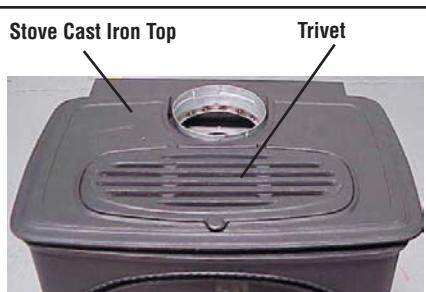

Figure 35
A. Place the cast iron top into position on the stove top (See Figure 35). Place the trivet into the recess on the cast iron top (See Figure 35).